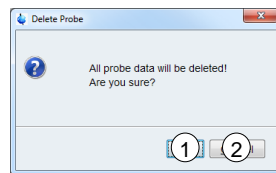

Figure 5-50: Navigation context menu – Delete Probe confirmation dialog
Click **Delete Probe** (1) in probe context menu to delete the selected probe. A subsequent confirmation dialog opens up (Figure 5-50).
Click **OK** (Figure 5-50 (1)) to confirm and continue the deletion of the probe. Click **Cancel** (Figure 5-50 (2)) to abort and keep the probe in *NMRPT*.